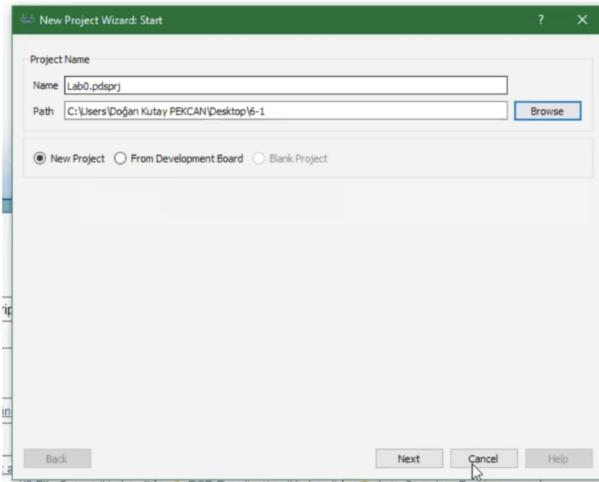

Figure 2: Label your project name.
2. Please choose the options displayed in Figures 2, 3, and 4 sequentially before finalizing the settings for the new project.